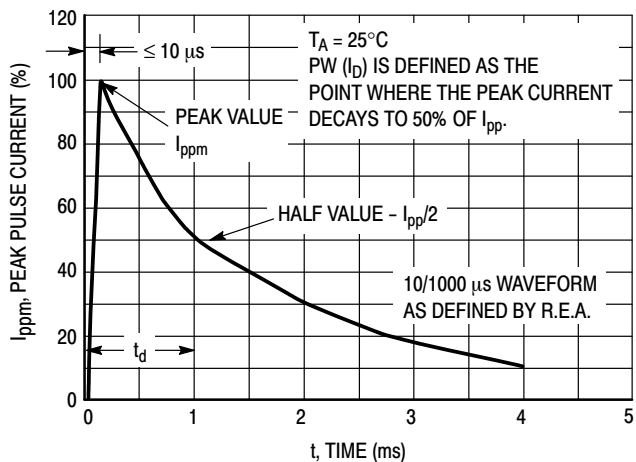
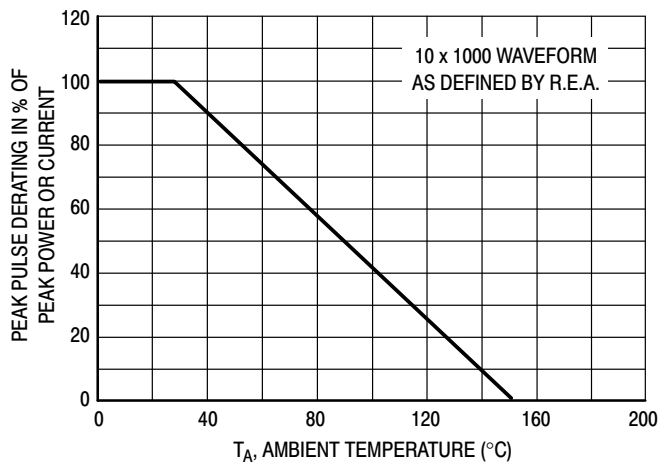

Figure 2. Pulse Waveform
Figure 3. Pulse Derating Curve
- Surge current waveform per Figure 2 and derate per Figure 3.